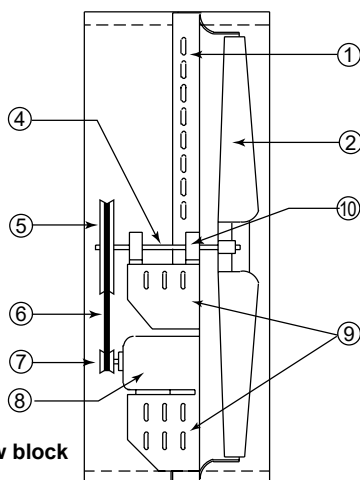

Fig. 7
- VI-SERIES FANS. Insure you identify the model and style of your fan. See Figs 7 & 8.